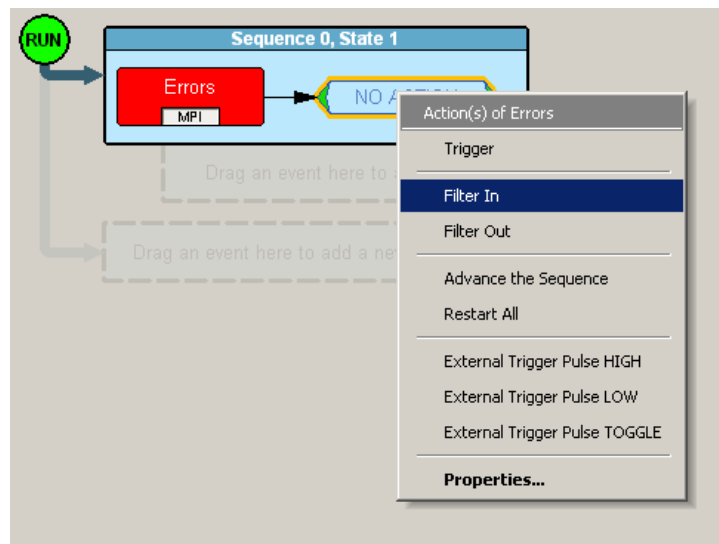

Figure 7.28 Example 4: Assigning the Action
- Step 3** Right-click in the **Action** box to the right of the MPI Error button. The Action pop-up menu appears (Figure 7.28).